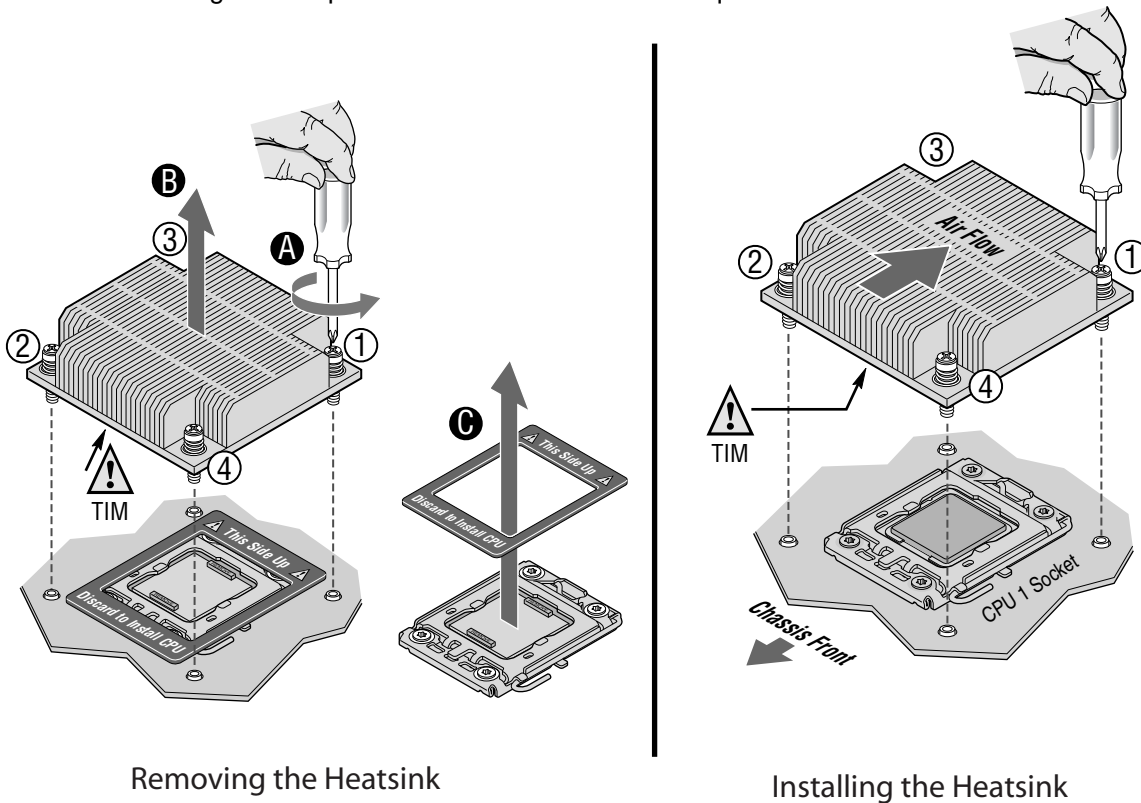

Figure 1: Removing and Installing the Heatsink
1. Loosen the four captive screws on the heatsink corners in a diagonal manner according to the numbers shown in Figure 1 as follows:
3. Remove and discard the spacer (see letter "C" in Figure 1).
2. Orient the heatsink over the processor as shown in Figure 1. The heatsink fins must be positioned as shown to provide correct airflow through the system.